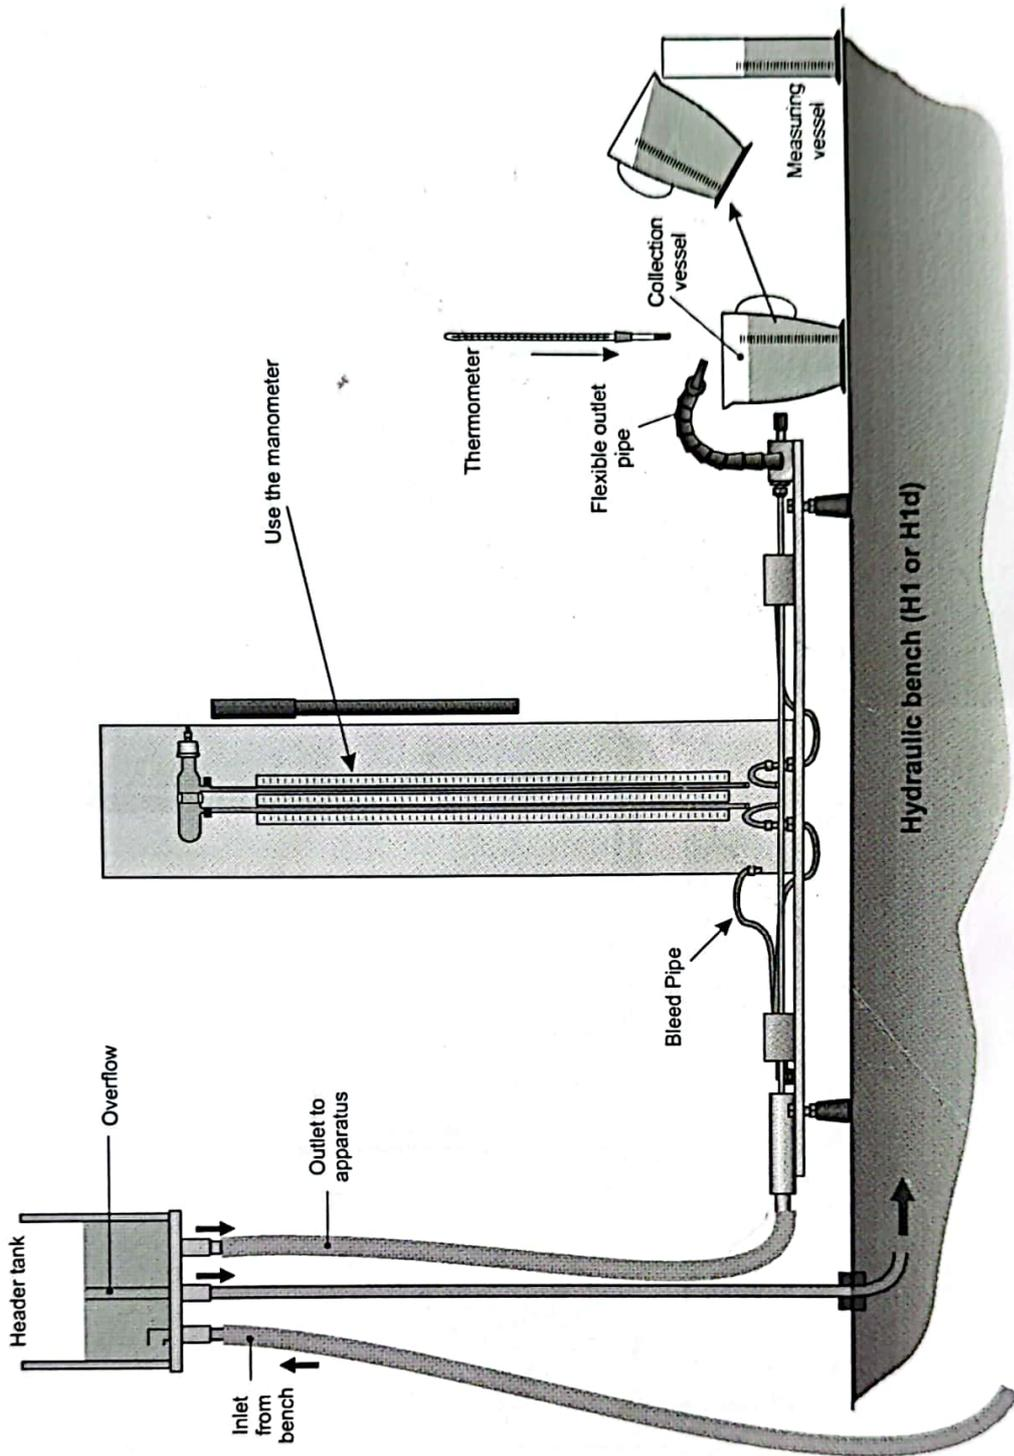

Figure 7 Connections for the Lower Flow Experiment
5. Figures 7 and 8 show how you connect the pipes through the Header Tank when you do the lower flow and higher flow parts of the experiments.